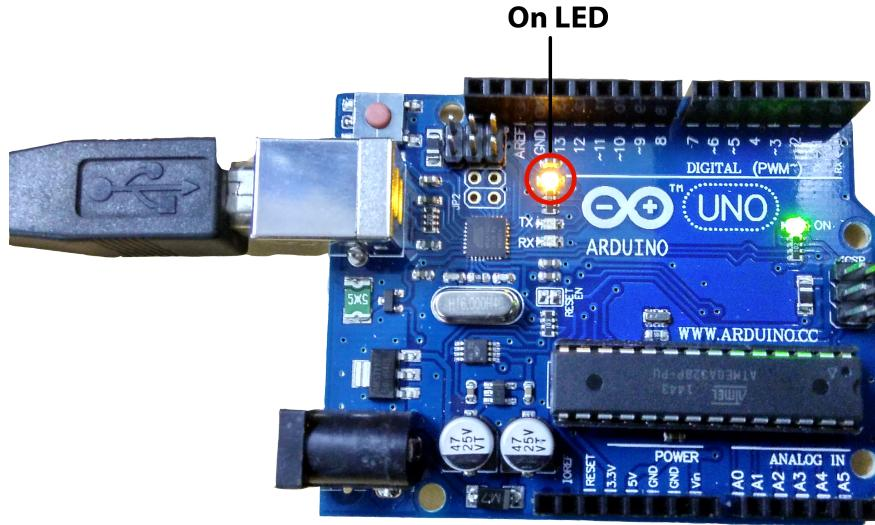

Figure 4.4: LED experiments directly on Arduino Uno board, without the shield
**Note:** All the above four experiments have been done with the shield affixed to the Arduino Uno board. One may run these experiments without the shield as well. But in this case, pin number 13 has to be used in all experiments, as pin 13 lights up the LED that is on the Arduino Uno board. For example, in Arduino Code 4.1, one has to replace both occurrences of number 9 with 13. In this case, one will get the LED of Arduino Uno board light up, as shown in Fig. 4.4.